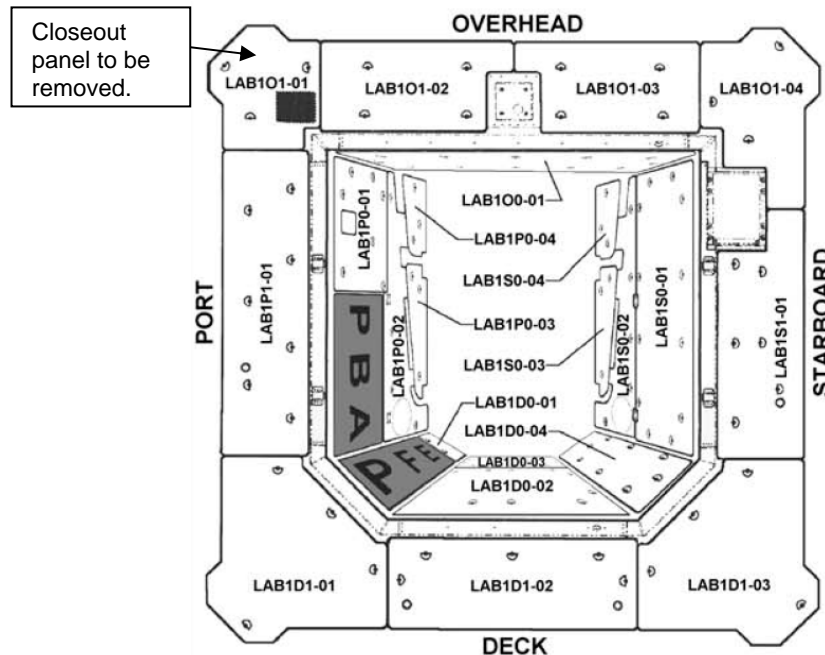

Figure 3.- LAB Forward Endcone Closeout Panels.
3. Remove Closeout Panel LAB1O1-01, quarter-turn fasteners (three). Refer to Figure 3.